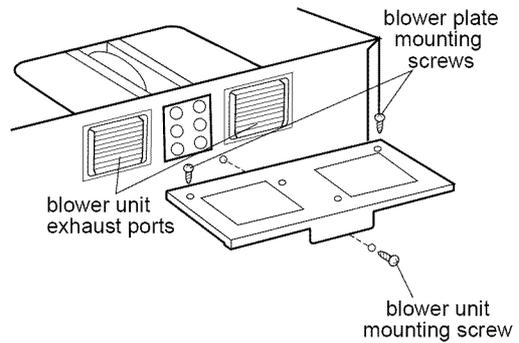

Figure 17
7. Reattach the blower plate to cabinet so the exhaust ports and blower plate opening are aligned. Attach with one blower unit mounting screw and then two blower plate mounting screws. See Figure 17.